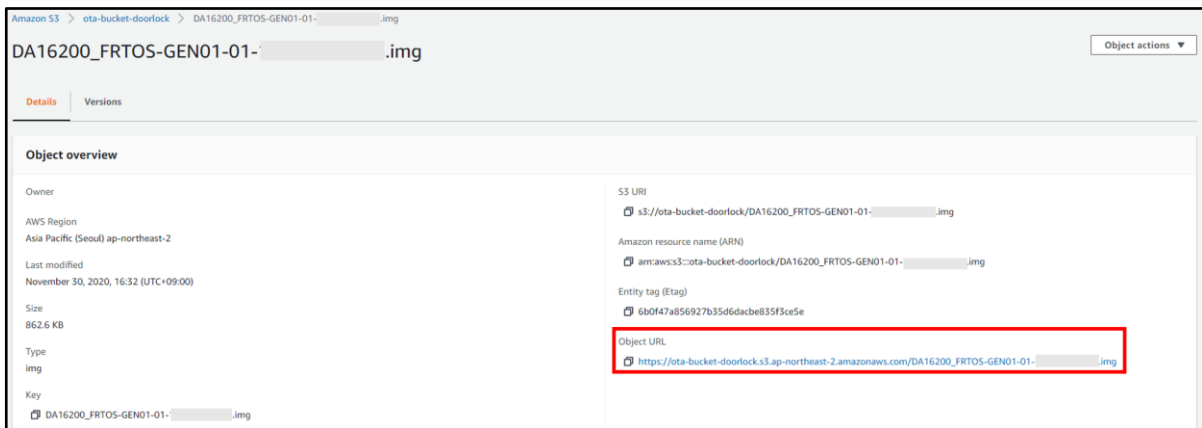

Figure 12: URL Displayed
5. Check the URL (<https://>) of the uploaded firmware as in Figure 12.